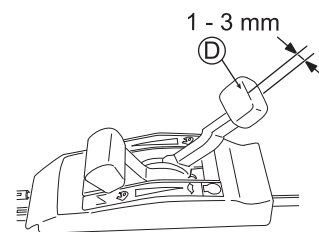

Fig. 36.
Adjust the play of Gearshift lever (D) to 1 - 3 mm as shown in Fig. 36.
- 3 Start the engine and confirm that running speed changes when Gearshift lever (D) is operated.